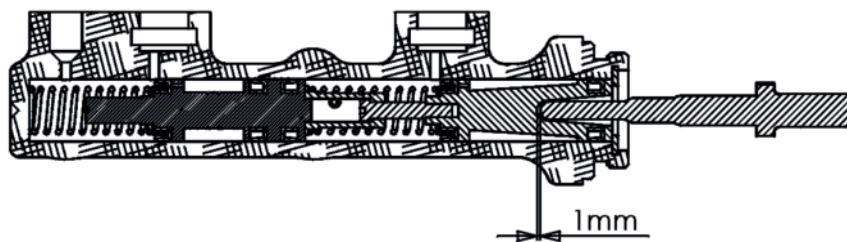

Fig. 4
- Check the rod that goes into the master cylinder from the pedal. It should have a 1/8 inch (1mm) of play before you can feel the rod make contact with the plunger (see Fig.4).
- Das Spiel sollte 1 mm betragen. Siehe Fig.4